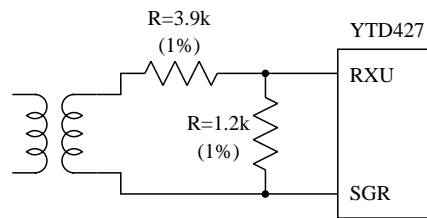

Figure 4.1: Receive Interface Connection
**Receive Interface** Receive pin RXU has a high input impedance. An example of a reference circuit of the receive interface is shown in Figure 4.1.